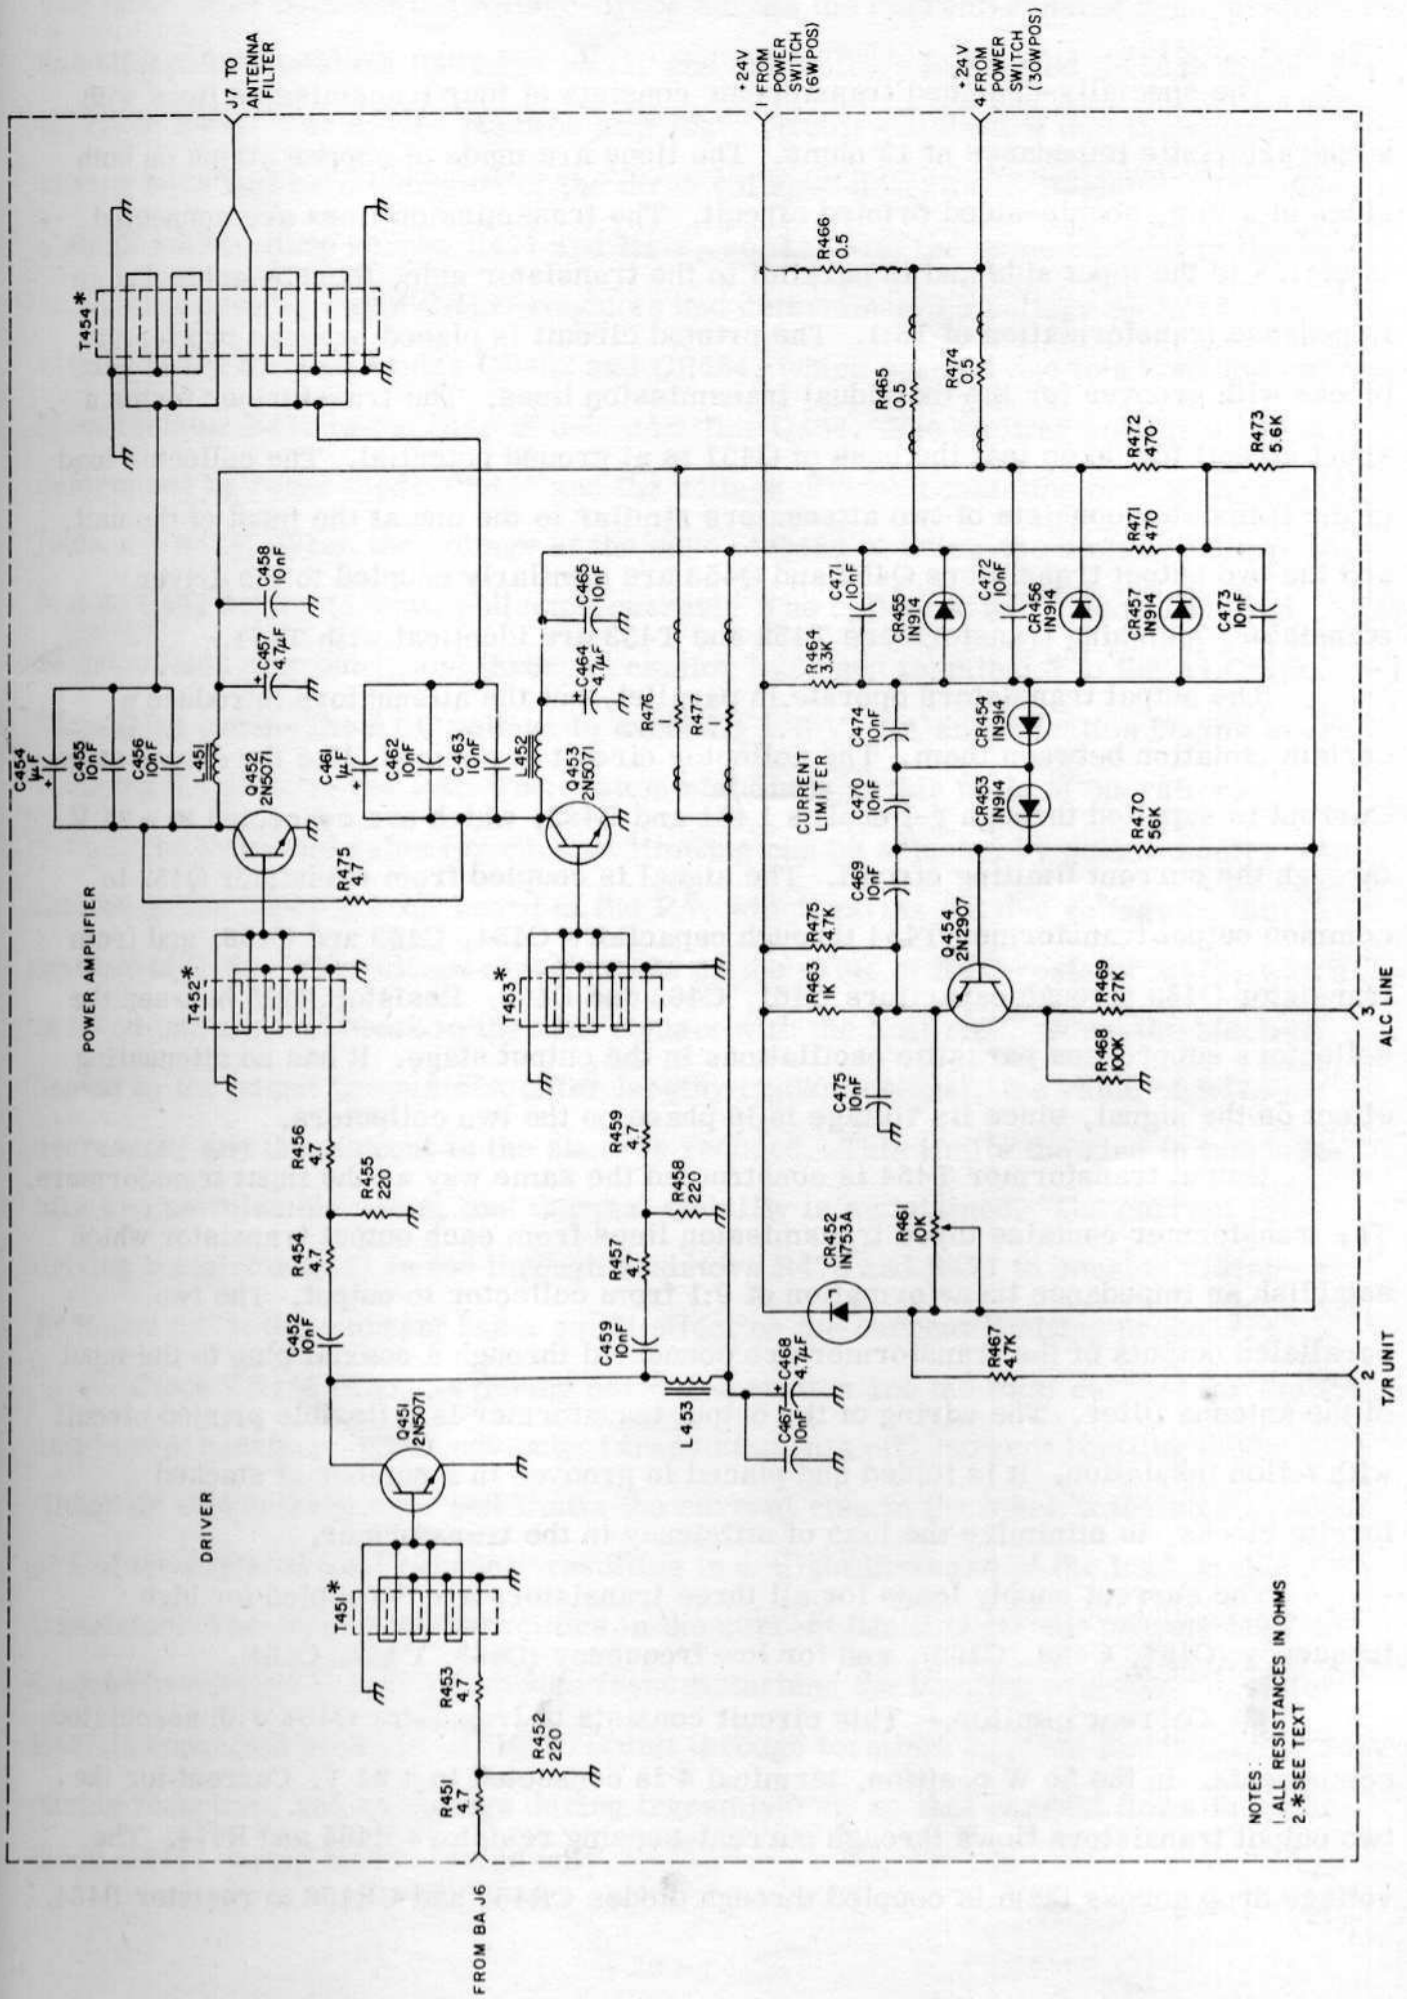

Figure 4-15. Power Amplifier (PA) Assembly A450, Schematic Diagram
i. PA Assembly. (fig. 4-15)- The assembly contains the last two stages of the range booster and a current regulating circuit. The assembly is mounted on an aluminium plate, and is secured to the front panel for thermal connection. All connections to the unit are through plugs.
(1) Power Amplifier.- The circuit consists of transistors Q451, Q452 and Q453 with associated components. It is a two-stage broadband amplifier with an output stage consisting of two transistors in parallel. The input signal from the BA unit is coupled through a coaxial plug to an attenuator, consisting of R451, R452 and R453. These resistors form a T network with an attenuation of 2 dB and with an impedance of 50 ohms. The network improves isolation between the broadband amplifying stages and thereby improves the stability. The attenuated signal is connected to matching transformer T451 which reduces the impedance to 3 ohms, to match the input impedance of driver transistor Q451.